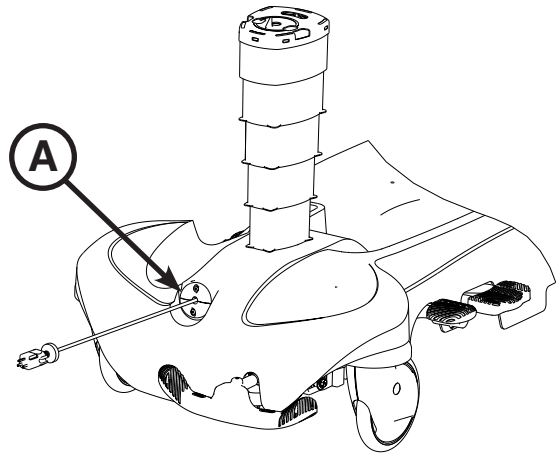

Figure 17: Optional Retractable Cord Reel
The retractable cord reel (A) stores the stretcher power cord during transport as shown in Figure 17.